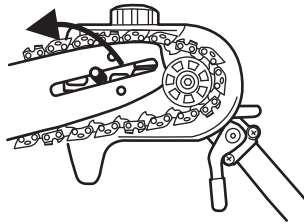

Fig. 6d
5. Take off the guide bar and chain. (See Fig.6d)